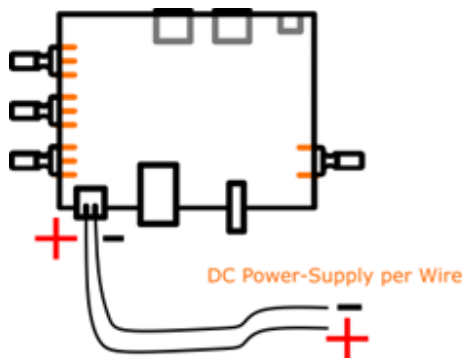

Figure 11: DC Power-Supply per Wires
Power supply is additionally as well via a DC power header possible (see Figure 11). Please take care of the polarity (+/-) and the allowed nominal voltage-range of **12V – 24V**. The absolute maximum voltage range is 9V – 36V. The power source should always deliver a **minimum of 16 W**.
- **Power-Supply per Wires:** As already described in Figure 11, the module can be powered with DC-voltage (Nominal: 12V – 24V, Max: 9V – 36V) via wires.